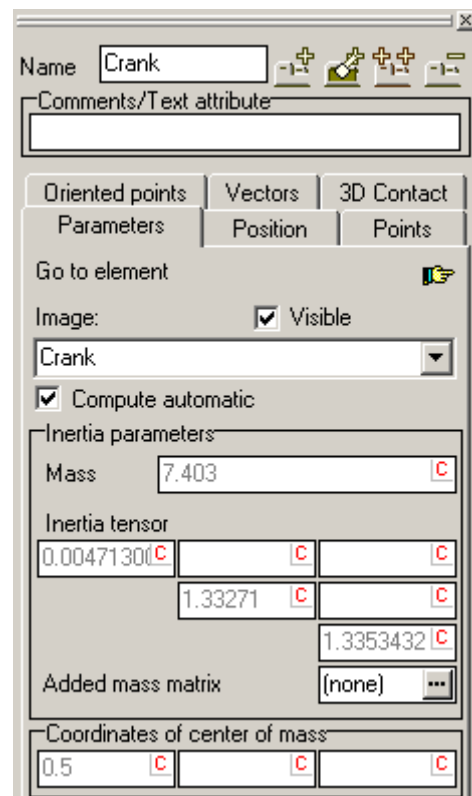

Figure 2.17.
4. Select the **Parameters** tab and turn on the **Compute automatic** flag for the both of bodies. Inertia property of the bodies are computed automatically, see Fig. 2.17.